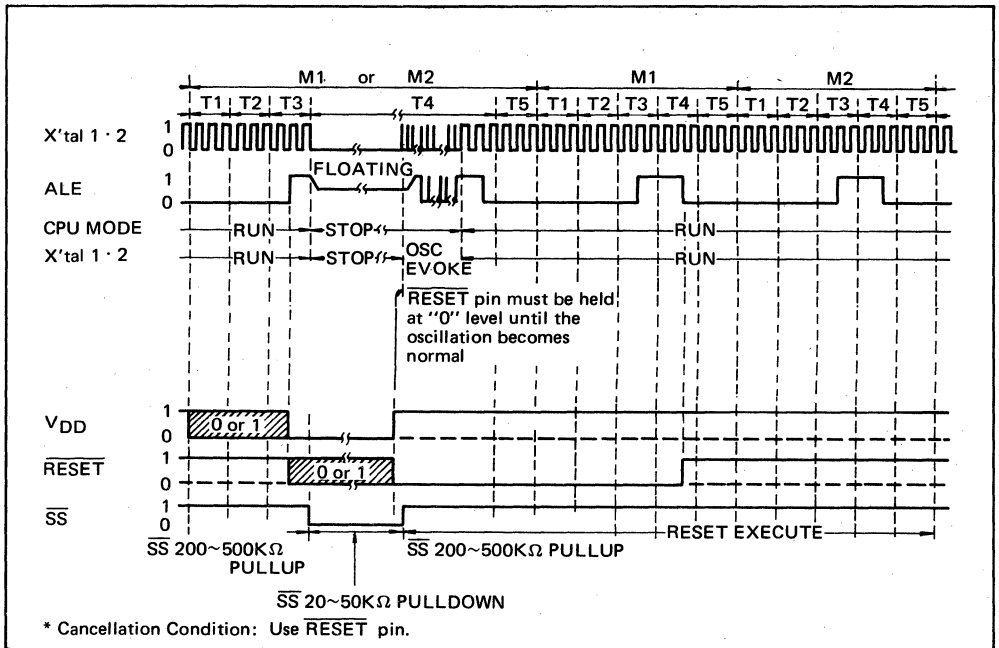
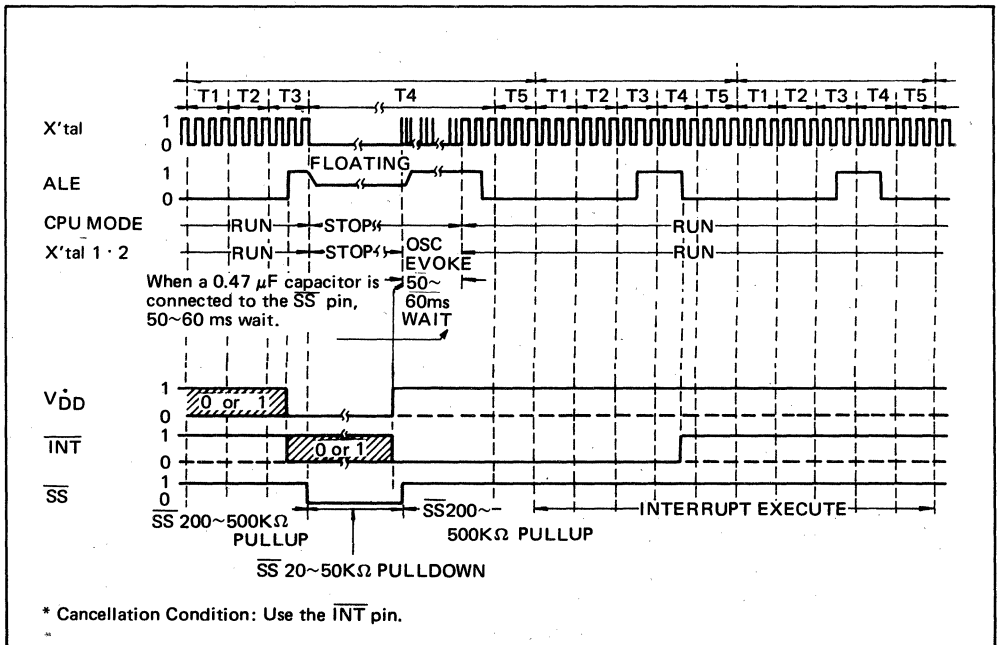
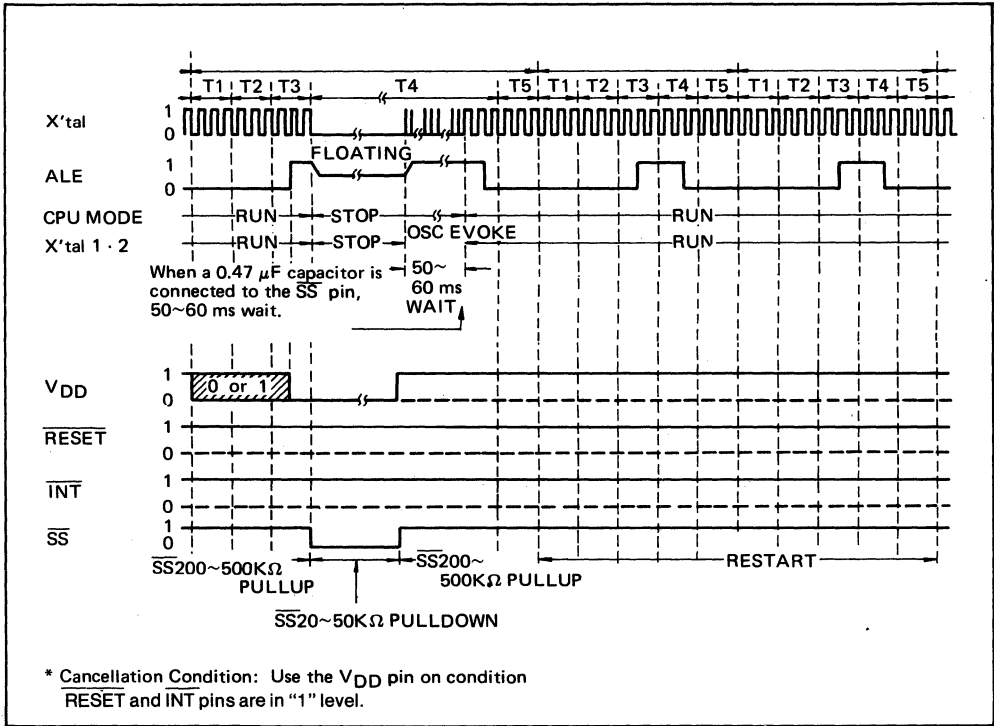

Fig. 4-5 Hardware Power-Down Mode Timing Chart
Fig. 4-6 Hardware Power-Down Mode Timing Chart
Fig. 4-7 Hardware Power-Down Mode Timing Chart
- (1) Use of $\overline{\text{RESET}}$ pin
- The clock generator is activated and the CPU started up when a "1" level is applied to the V_{DD} pin while a "0" level is input to the $\overline{\text{RESET}}$ pin. If this "0" level is kept applied to the $\overline{\text{RESET}}$ pin until oscillation become stable, the CPU will be reset and will start executing from address 0. The timing chart is outlined in Fig. 4-5.
- (2) Use of the $\overline{\text{INT}}$ pin during external interrupt enabled status (i.e. following execution of ENI instruction)
- (3) Use of the $\overline{\text{INT}}$ pin during external interrupt disabled mode (i.e. following execution of DISI instruction or hardware reset)
- The clock generator is activated and the CPU started up when a "1" level is applied to the V_{DD} pin while a "0" level is applied to the $\overline{\text{INT}}$ pin. If this "0" level is maintained until at least 2 ALE output signals occur, execution is continued on the next instruction after the present instruction. The timing chart is outlined in Fig. 4-6.
- (4) Use of V_{DD} pin only
- The clock generator is activated and the CPU started up when a "1" level is applied to the V_{DD} pin while a "1" level is also applied to both the $\overline{\text{RESET}}$ and $\overline{\text{INT}}$ pins. In this case, execution is resumed from the stopped position. The timing chart is outlined in Fig. 4-7.